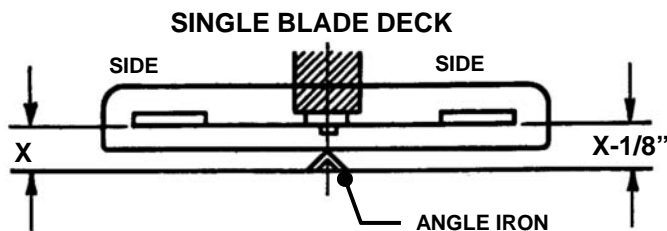

FIGURE 4.8
5. Measure the distance from blade tips to floor. If the measurement is within $1/8$ " from side-to-side, the deck levelness is satisfactory. If the difference from side-to-side is greater than $1/8$ ", continue to the next page for adjustment. See Figure 4.8.